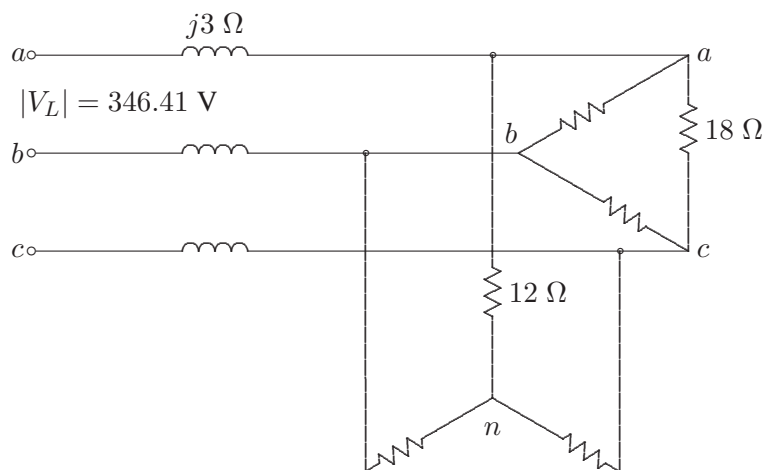

FIGURE 15
2.16. A balanced Δ -connected load consisting of pure resistances of 18Ω per phase is in parallel with a purely resistive balanced Y-connected load of 12Ω per phase as shown in Figure 15. The combination is connected to a three-phase balanced supply of 346.41-V rms (line-to-line) via a three-phase line having an inductive reactance of $j3 \Omega$ per phase. Taking the phase voltage V_{an} as reference, determine